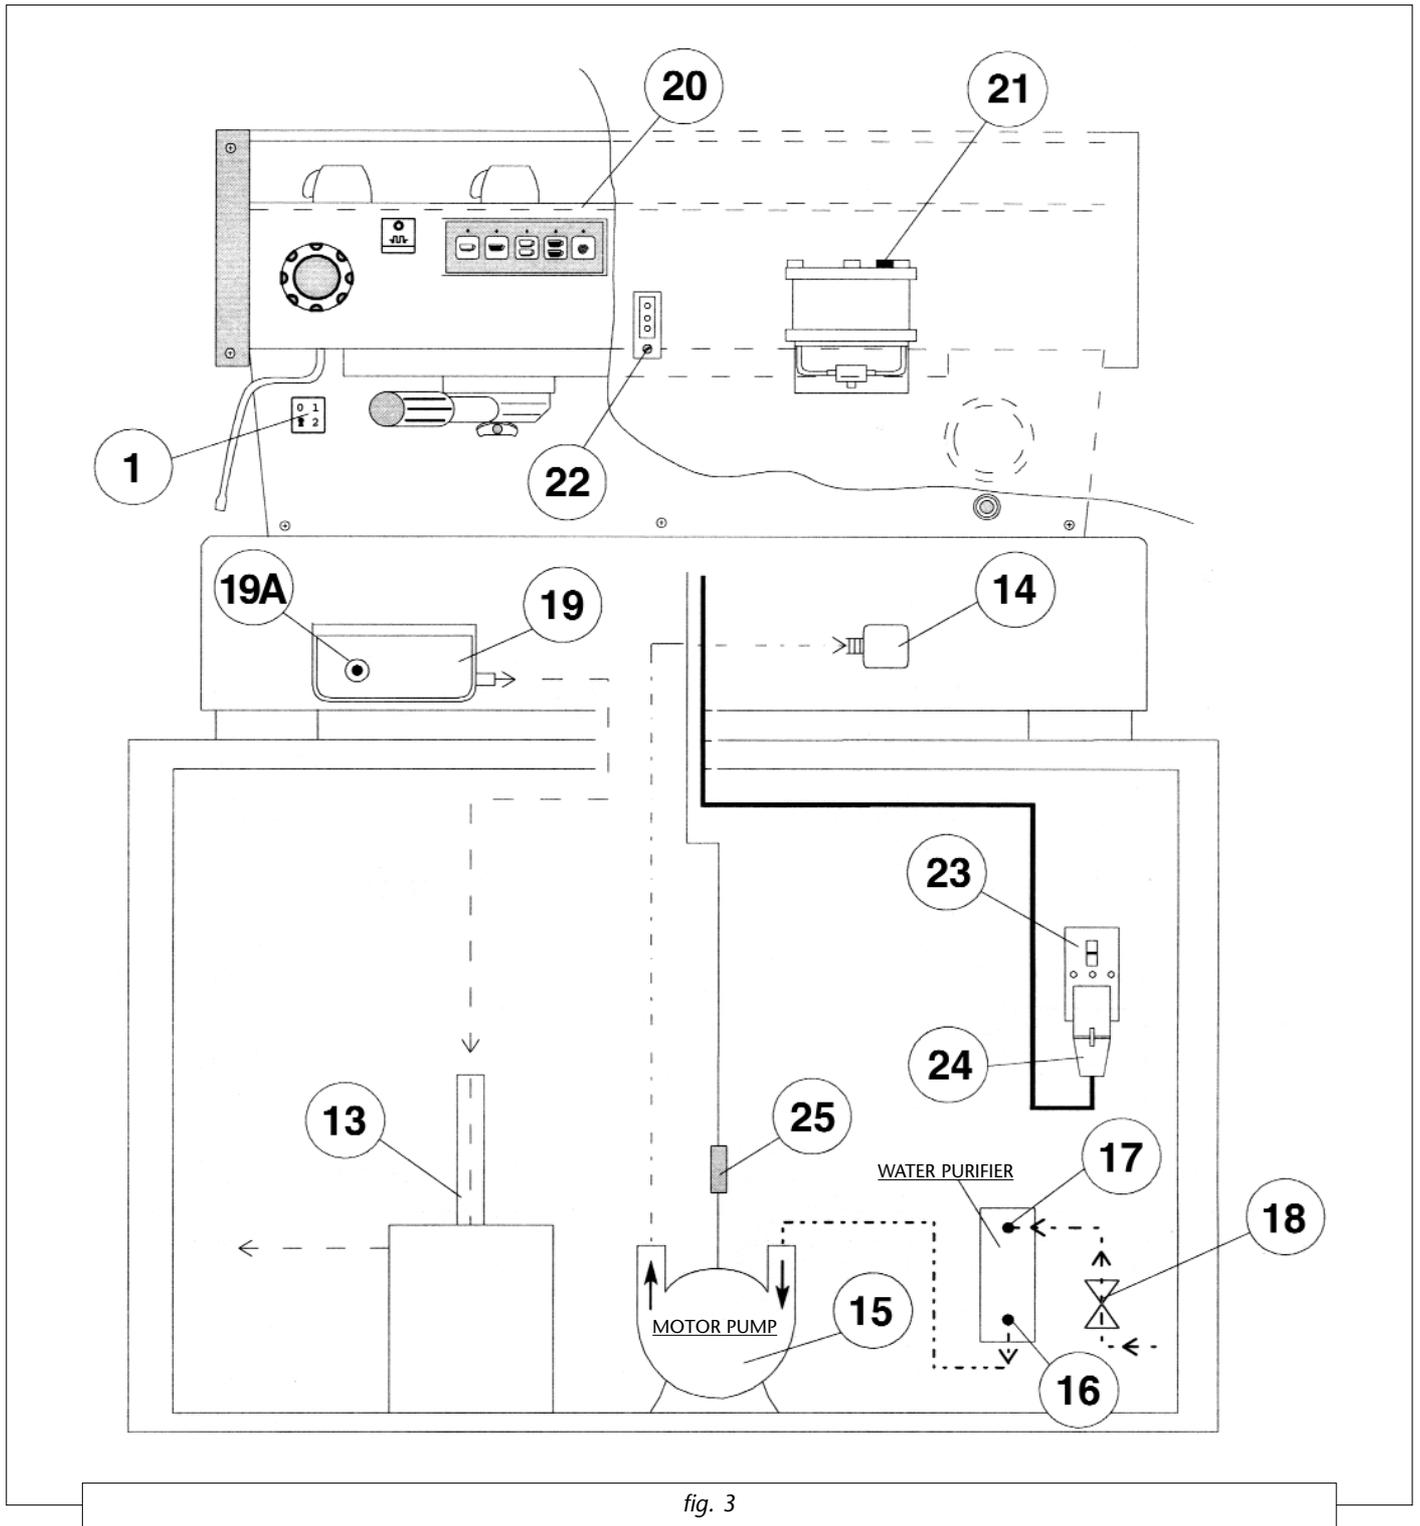

fig. 3
**INSTALLATION** - see fig. 3 (pag.7)
The water flows inside the coffee boiler directly, as soon as the water system and purifier taps are opened. Since the inflowing water will compress the air in the boiler, it will be necessary, in order to completely "saturate" the boiler-groups assembly, to remove the group cover plate (part 20 Fig. 3) and unscrew the small bolt (part 21) a little way so as to allow air to escape until a few drops of water leak out, at which point you should repeat such operation for each group and then tighten the small bolts again and reinstall the cover plate.
in order to bring the water contained in such boiler up to operating temperature. However, in this case it is necessary to adjust the 19A expansion valve (Fig. 3) in such a way that the pressure may never exceed 11 bar.